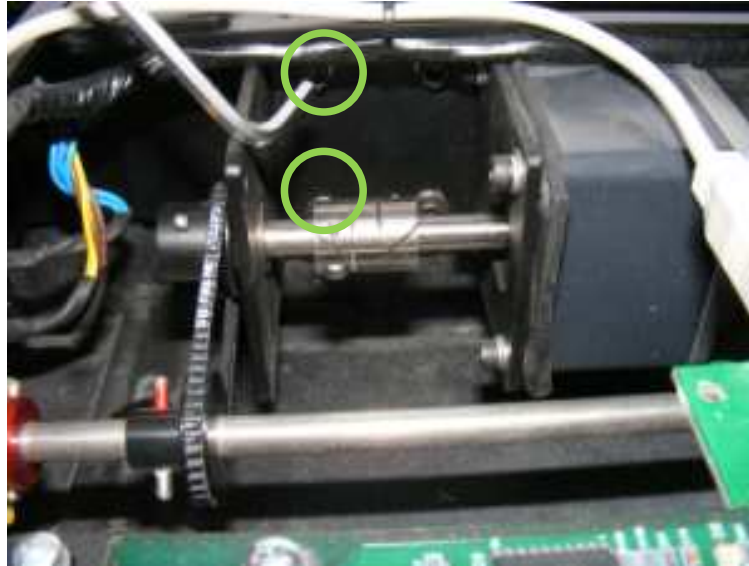

Figure 15-2
- Using M5 Allen key tighten the 2 left screws which are connecting the Linear Motion Stepper motor to the CR-Reader body (figures 15-2 ,15-3)